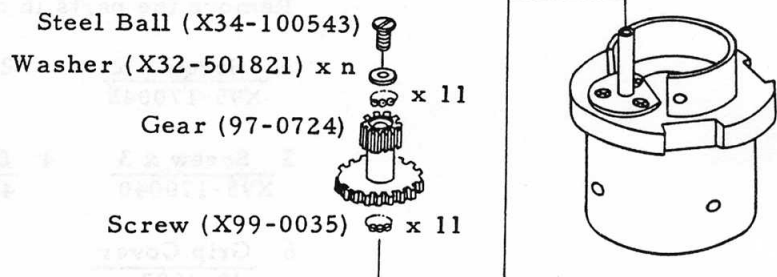

Fig. 2
- 1) Install the parts as shown in Fig. 2.